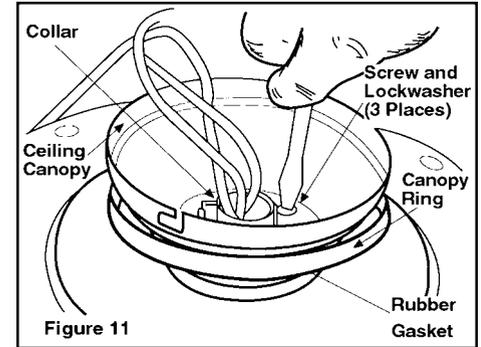

Figure 11
- Place the rubber gasket over the remaining three screws, route the wires exiting the top of the Room Conditioner motor through the canopy ring (make sure the slot openings are on top), then proceed to place the ceiling canopy over the collar at the top of the motor (Figure 11).